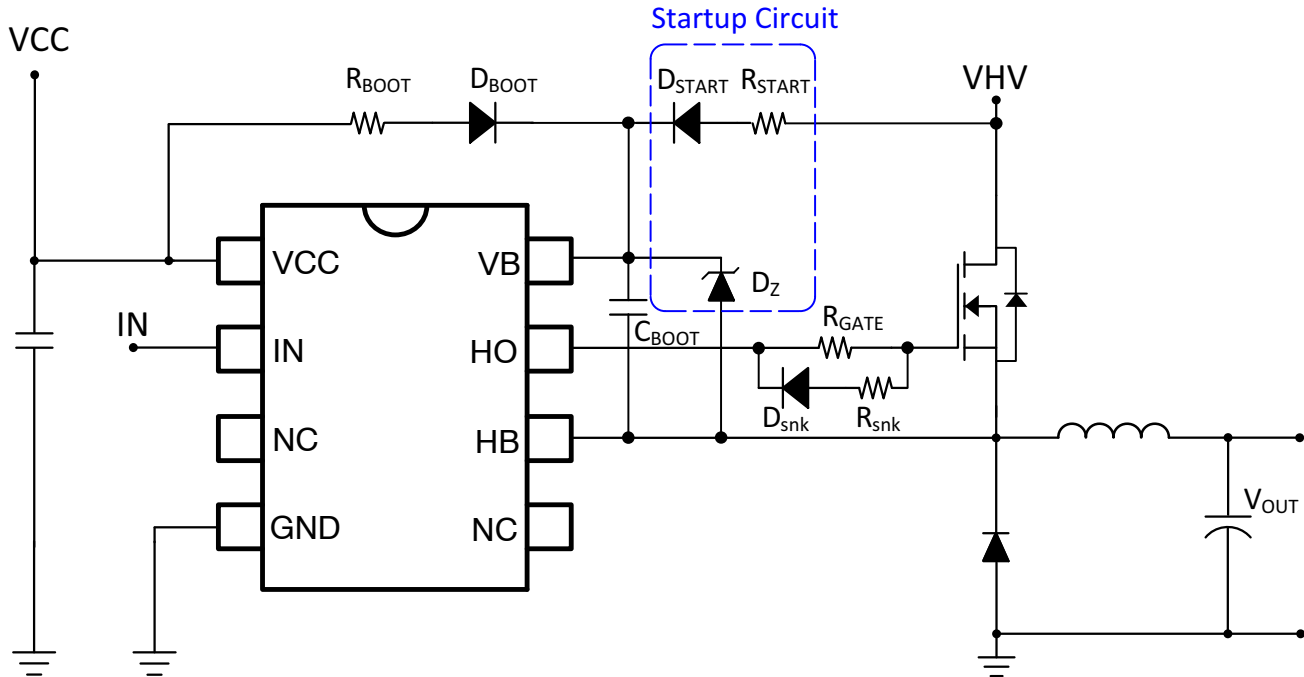

Figure 32. Bootstrap with Startup Circuit
usually provided through a bootstrap circuit. A typical bootstrap circuit is shown in the Figure 32.
The start-up circuit, as shown in the Figure 32, consists of a startup resistor (RSTART), a startup diode (DSTART), and a Zener diode (DZ). In this startup circuit, startup diode DSTART serves as a second bootstrap diode used for charging the bootstrap capacitor (CBOOT) at power up. Bootstrap capacitor (CBOOT) is charged to the Zener diode of DZ, which is supposed to be higher than the driver's supply voltage (VCC) during normal operation. The charge current of the bootstrap capacitor and the Zener current are limited by the startup resistor. For best efficiency, the value of startup resistor should be selected to limit the current to a low value, since the bootstrap path through the startup diode is permanently in the circuit.
The resistors also help to decrease power dissipation of the driver, because part of the energy from charging and discharging  $C_{gs}$  is radiated on the resistors  $R_{gate}$  (and on  $R_{snk}$  if they are used) outside the driver see Figure 32. The gate resistor selection is tricky task. It depends on application, topology, on used MOSFETs, layout etc.
In some applications it is desired/advantageous to use separated current paths for charging and discharging the gate capacitance. For this purpose external MOSFET gate connection must be extended (see Figure 32). Two components  $R_{snk}$  and  $D_{snk}$  can be added in parallel to  $R_{gate}$  resistor. The charging path is now only through  $R_{gate}$  resistor, while discharging path is through  $R_{snk}$  and  $R_{gate}$  in parallel combination. Consider both resistors are the same value 10  $\Omega$ . The source current is calculated using eq. 10. The current is 769 mA.